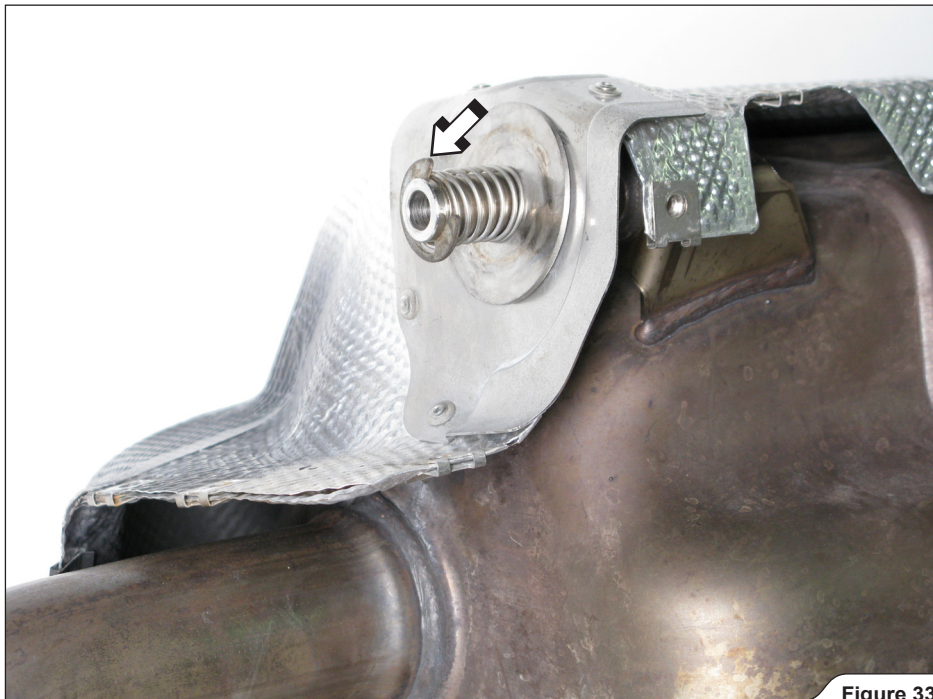

Figure 33
24. Undo the marked spring clip and remove the spring and washer on both sides of the muffler, than carefully remove the rear part of the muffler's heat shield (**Figure 33**).